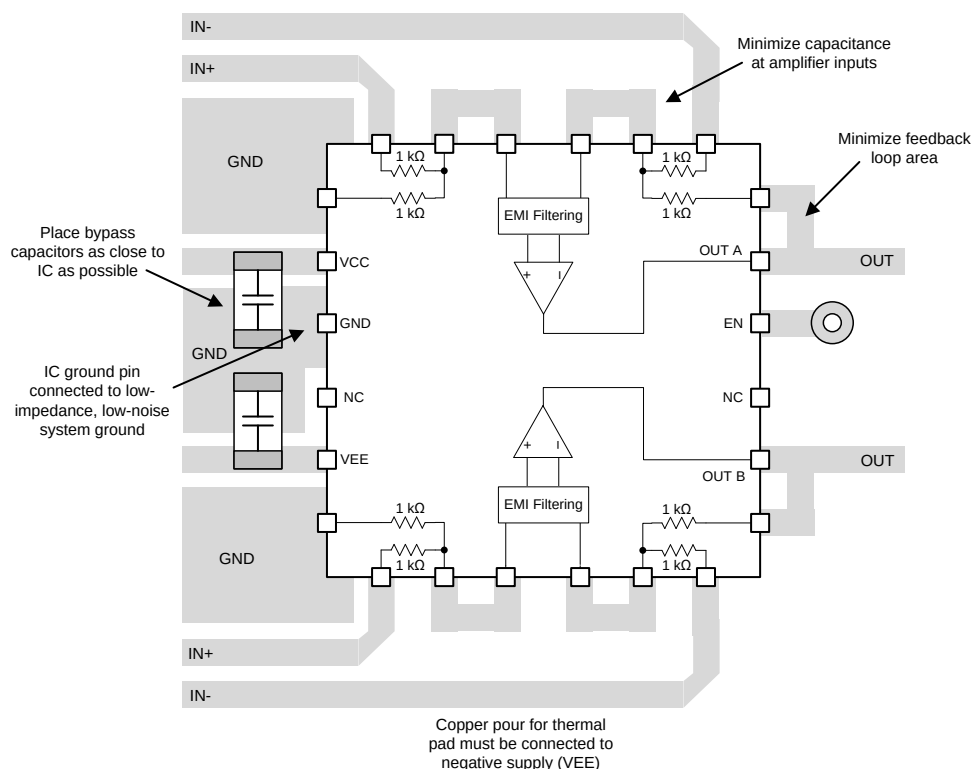

Figure 61. Board Layout for a Difference Amplifier Configuration
- Place the external components as close to the device as possible. As shown in Figure 61, keep feedback resistors close to the inverting input to minimize parasitic capacitance and the feedback loop area.